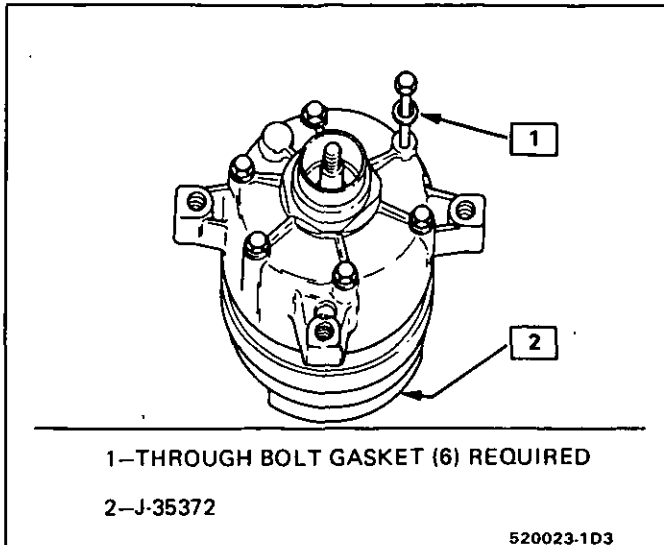

Fig. 29 Front Head Installed: Thru Bolts and Gaskets In Place
9. Add new through bolt gasket to the through bolts and install the bolts into the compressor assembly (Figure 29). Be sure four (4) of the through bolts thread into the rear head before removing the guide pins. Alternately tighten the through bolts in progressive torque until a torque of 8-10 N·m (72-84 in. lbs.) is achieved on all six (6) bolts.